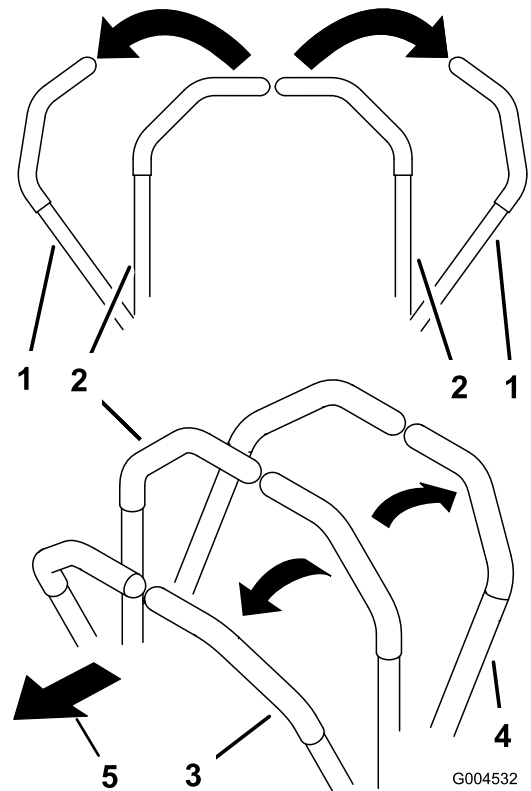

Figure 45
1. Move the motion control levers (Figure 45) out to the neutral locked position.
- To go straight forward, slowly push the motion control levers forward (Figure 45).
- To go straight rearward, slowly pull the motion control levers rearward (Figure 45).
- To turn, slow the machine by pulling back on both levers and then push forward on the lever on the opposite side from which you want to turn (Figure 45).